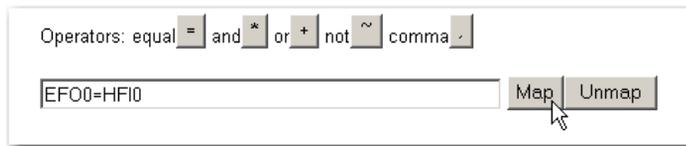

FIG. 335 ASSIGNMENT STATEMENT IS COMPLETE
Step 11. The Assignment Statement is complete. You now see in the Mapping text box: “EFO0=HF10” (See Fig. 335)